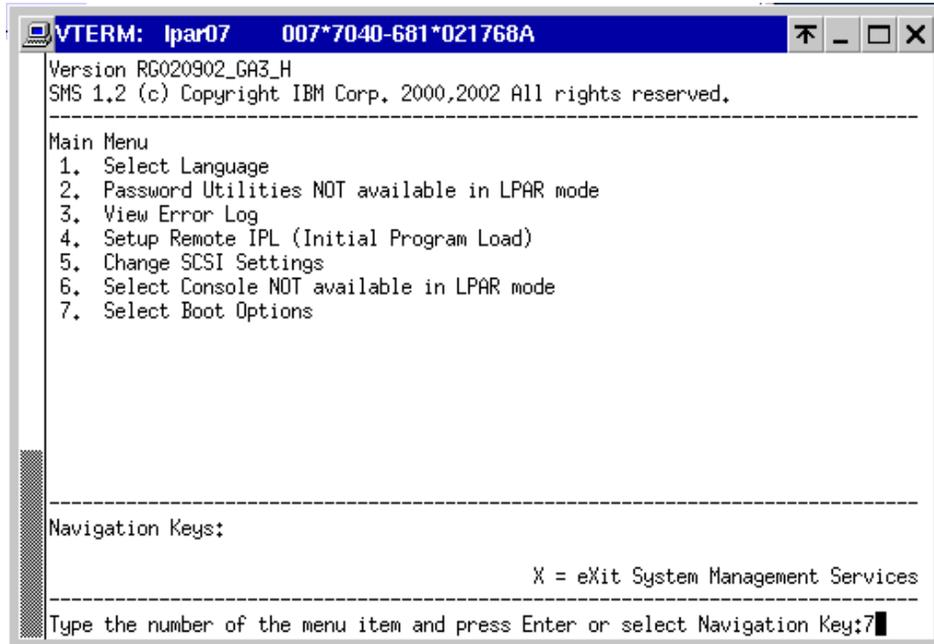

Figure 7-2 System Management Services: Main menu
9. In the SMS menu, press the 7 key to select **7. Select Boot Options**, as shown in Figure 7-2.